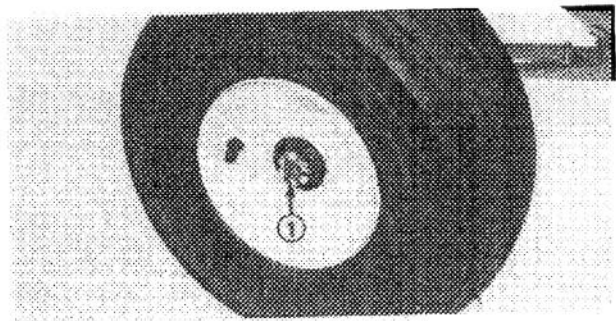

Figure 53
7. Slide wheel assembly onto spindle shaft and secure it in place with flatwasher and slotted nut (Fig. 53). Do not tighten the nut and do not install the cotter pin.